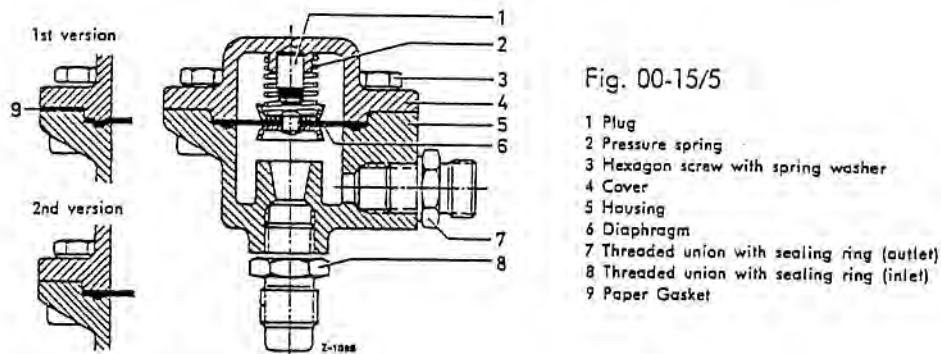

Fig. 00-15/5
To improve sealing between housing and cover, a groove has been cut into the sealing surface of the housing (5) (Fig. 00-15/8). On the first version installed in Model 220 SE, in addition to the groove in the housing, a rim was added to the sealing surface of the cover (4). Furthermore, in this version a paper gasket (9) was added between housing and cover to prevent excessive pressure on the diaphragm by the rim on the cover; without the gasket it might tear. In no case, however, must a paper gasket be used in the 2nd version of the damper unit with a rimless cover since that would decrease the pressure on the diaphragm too far.
When a threaded union is replaced make sure that a proper new union is fitted. Fig. 00-15/8 shows the damper unit for the feed line (from the fuel filter). In the damper unit for the return pipe the threaded union (7) has a 6 mm bore and the threaded union (8) a 3.5 mm bore on Models 220 SE and 220 SEb and a 2.0 mm bore on Model 300 SE.